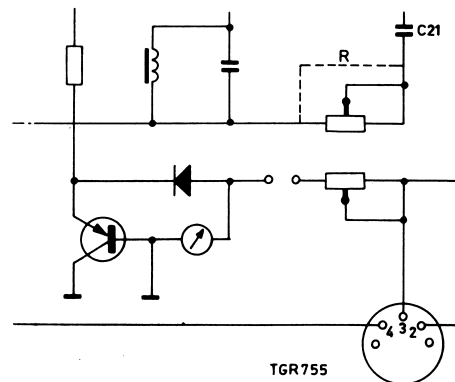

Fig. 1.
In some apparatuses it may occur that oscillator coil S2 has a fixed coil core. This coil can then be adjusted by means of a variable resistor R, see Fig. 1, which is accessible through a hole in the top of the mounting plate.
- Starting with marking AH01 week 31, capacitor C28 has been added (code number 909/C25). The value of C26 was changed from 1000 μ F to 400 μ F (code number C26: 909/U400). Diode OA79 and transistor TS7 were replaced by an OA70, see Fig. 1.